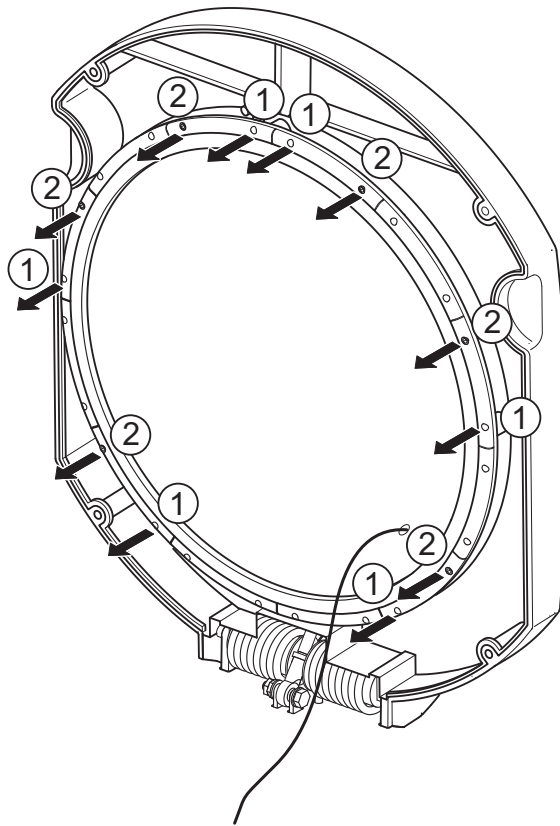

Fig. 23: Removing and loosening the screws
- Tighten the fastening screws on the fixing plate again (see Fig. 23: oben, pos. 1 and 2). Pay attention to the position of the door seal while doing this.